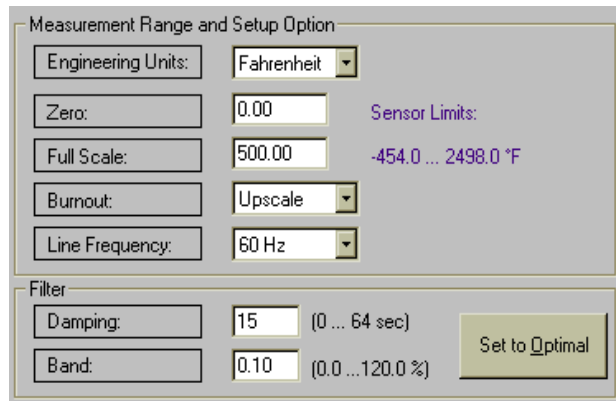

Figure 8.
8. TAB down to the next box which is **“Zero”**. Just to the right of the **“Zero”** box in blue type is the maximum allowable measurement range for the selected sensor. Enter the **“Zero”** value to define the specific low input range. Next TAB down to the **“Full Scale”**. Enter the **“Full Scale”** value that defines the transmitters high input range. (See Figure 8)